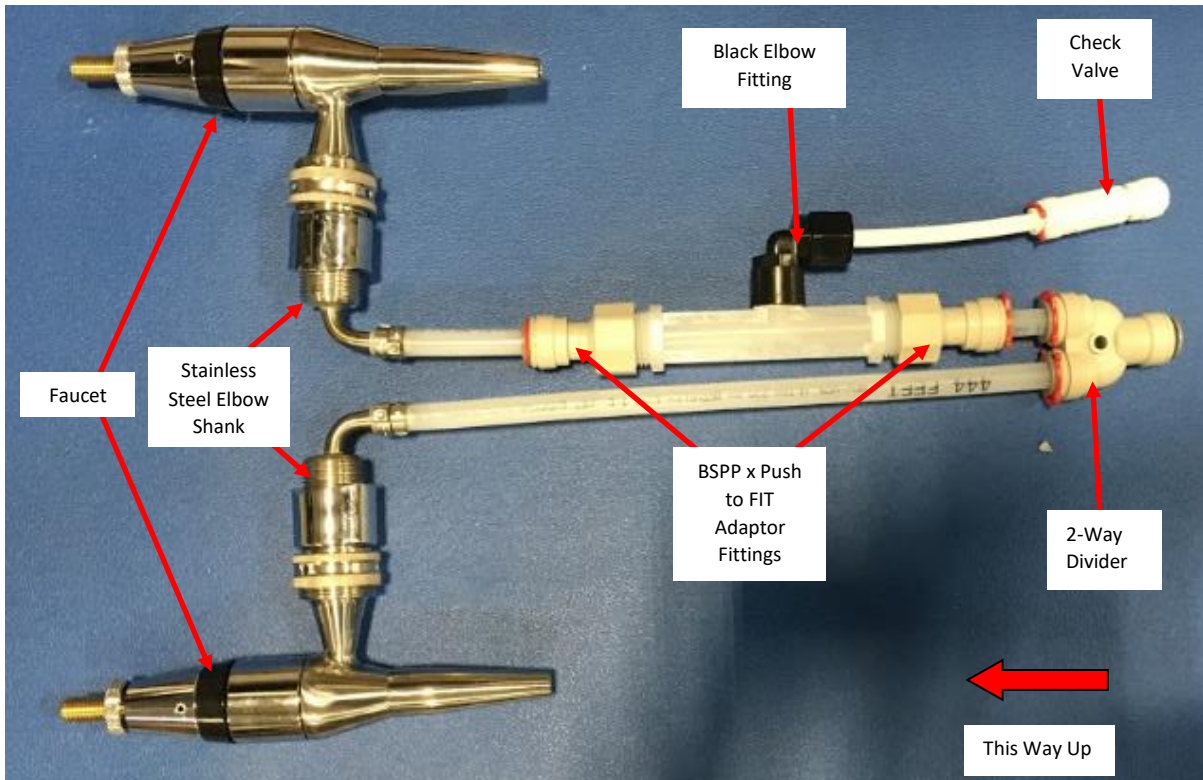

Figure 41: Tower Parts Identification.
3. **Leak Inside Tower:** Refer to **Appendix I: Disassembling The Tower** to see how to disassemble and reassemble the Tower if necessary. Refer to **Figure 41** to help identify fittings. After a fix, before reassembling the Tower, it is recommended that you test the tower assembly outside the tower. Hook up a keg filled with water and pressurize system to verify the leak has stopped. The fittings inside the Tower (besides the Check Valve) are not replaceable parts. If leaks inside the Tower cannot be fixed with existing fittings, replace the entire Tower Tubing Assembly.
- d. **2-Way Divider:** The 2-Way Divider can leak from either of the three connections. If leak is found, try to push the connecting stem or tube in further into the connection. **See Figure 41.** If pushing the tube/stem further in does not resolve the leak, replace the Nitro Tower Tubing Assembly. Refer to **Appendix I: Disassembling The Tower** to see how to disassemble and reassemble the Tower.